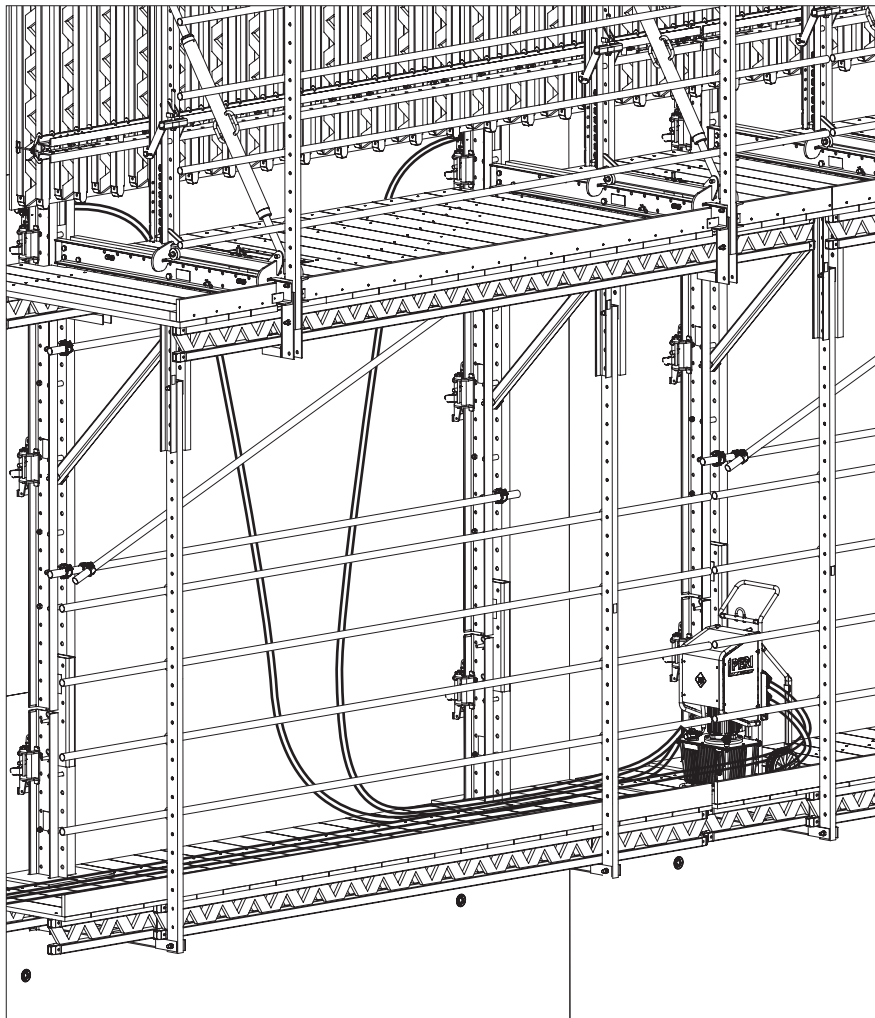

Fig. D6.02
8. Pull the hydraulic hoses between the wall and the platforms without creating any loops. If necessary, attach suitable strain relief. (Fig. D6.02)